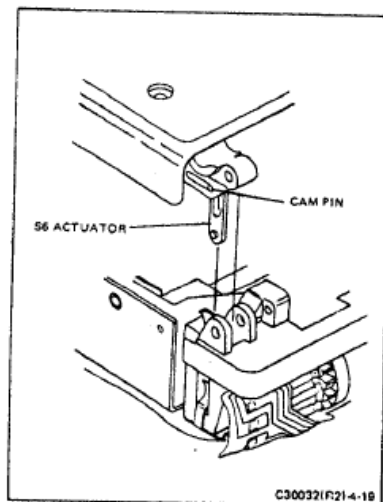

FIGURE 4-19 REMOVING S6 ACTUATOR
9. Remove the S6 actuator (Figure 4-19) from the mirror cover by driving out the actuator cam pin with a small drift pin.
5. Lower the housing so the free-hanging actuator passes through the cutout in the inner frame assembly toward the S6 contact. (See Figure 4-19.)